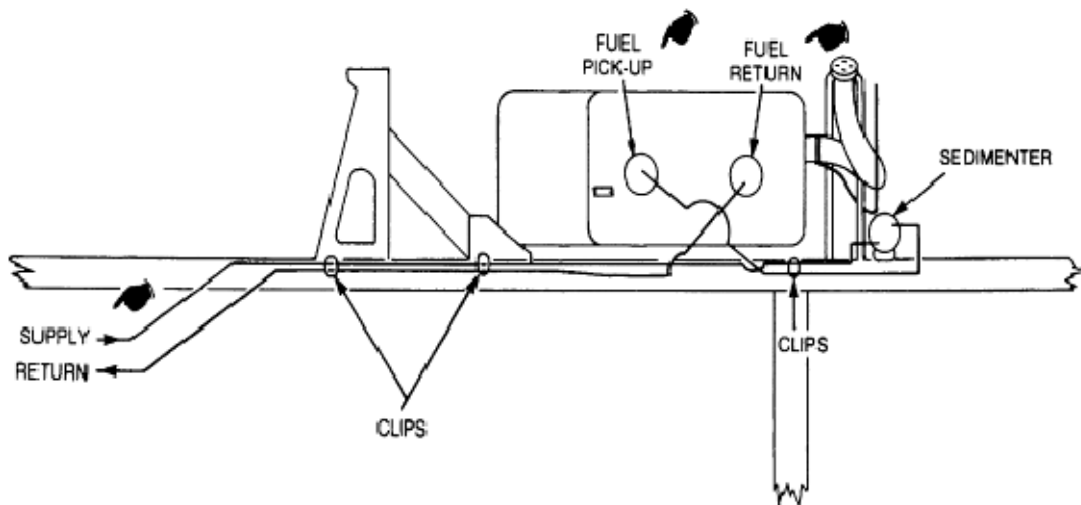

Figure 24 Fuel Lines Removal
- b. Tag and remove the supply and return lines from the fuel tank sender unit and pick-up pipe (Figure 24).
- a. Position the return fuel line along the chassis rail and connect the line to the sedimenter housing and to the spill return pipe on the engine (Figure 24).
- c. Position the supply fuel line along the chassis rail and connect the line to the tank sender unit and the fuel transfer pump (Figure 24).
- e. Tighten the hose clamps that secure the supply and return lines to the engine (Figure 24).